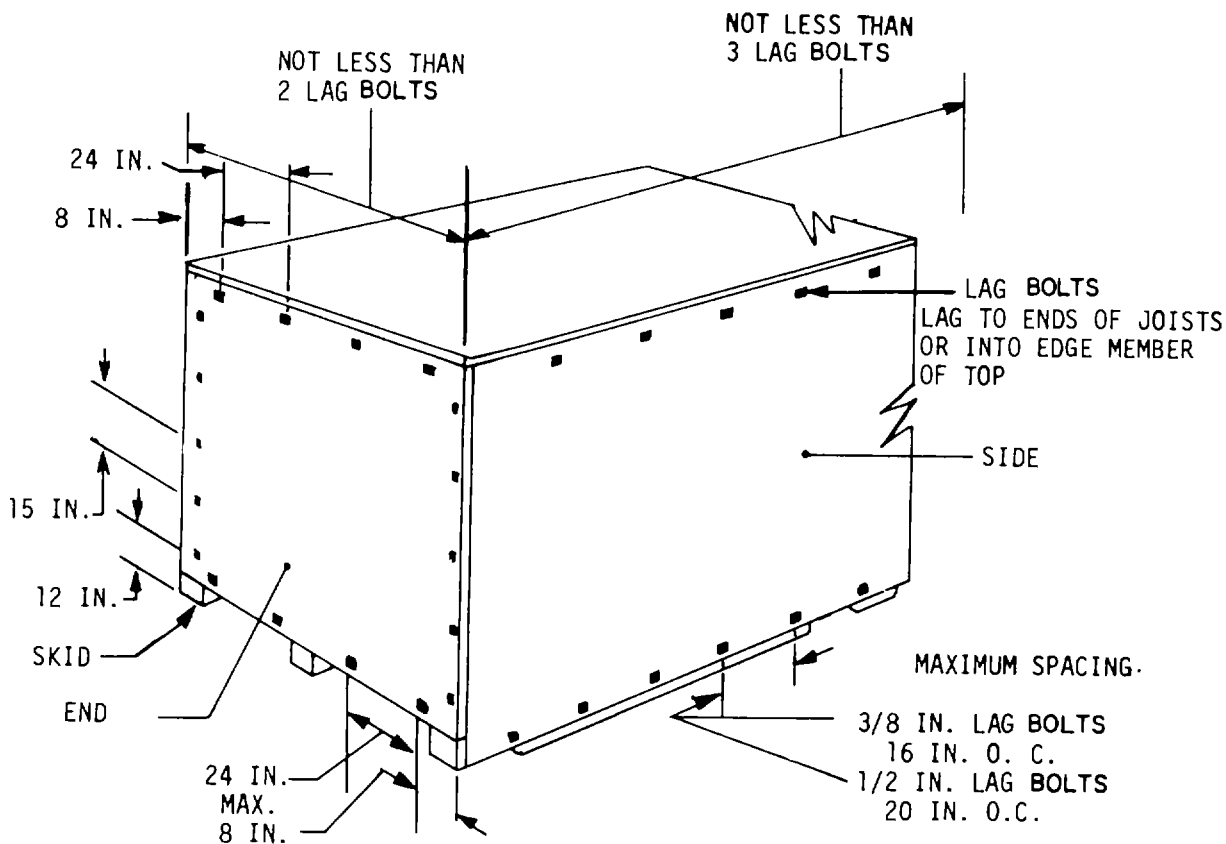

Figure D-3-7. Assembly of bolted Crate (Lumber or Plywood Sheathed).
(4) Fastening Ends to Top and Sides. Lag bolts for fastening ends to tops shall be 3/8-inch diameter by 2-1/2 inches long. Lag bolts for fastening ends to sides shall be 3/8-inch diameter by 3-1/2 inches long. Placement and other assembly details shall be as shown in figures D-3-7 and D-3-9.
(5) Fastening Sides to Base. The sides shall be secured to the skids with lag bolts. For 3- by 3-inch or 3- by 4-inch skids, 3/8-inch diameter by 3-inch long lag bolts shall be used; for 4- by 4-inch skids, 1/2-inch diameter by 4-inch long lag bolts shall be used; and for 4- by 6-inch skids, 5/8-inch diameter by 4-inch long lag bolts shall be used. The number of lag bolts shall be as specified in table D-3-1. One-half the number shall be used on each side and the spacing shall be uniform along the skid. Maximum spacing shall be 16 inches for 3/8-inch lag bolts and 20 inches for 1/2-inch lag bolts. Lead holes shall conform to table D-3-2 in size and shall be drilled in line with and through the center of the metal reinforcing strap as well as through the sheathing and into the skid. Assembly and placement details shall be as shown in figures D-3-7 and D-3-8.